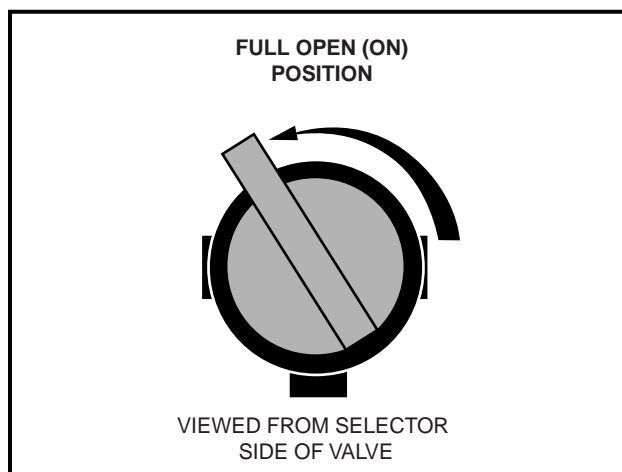
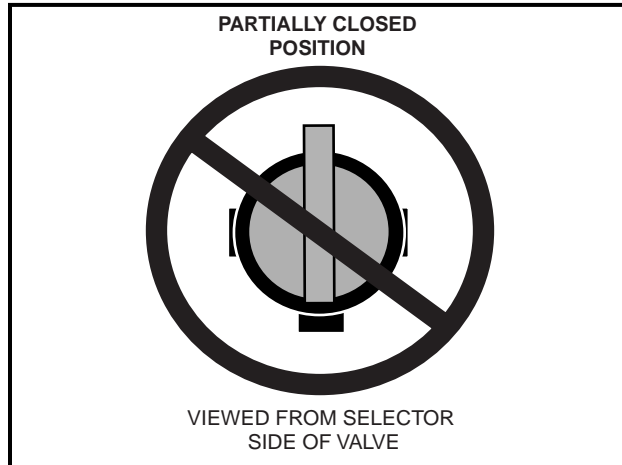

Figure 13 Fuel Shut-off Valve – Open Position
Figure 14 Fuel Shut-off Valve – Partially Closed Position
- 1.1. Remove plug from the fuel tank vent nipple and connect the vent line to the nipple. Open fuel shut-off valve. Make sure the valve is fully open (**Figure 13, Page 19**). A partially closed fuel valve (**Figure 14, Page 20**) combined with the use of the choke, can result in a fouled spark plug and engine failure.